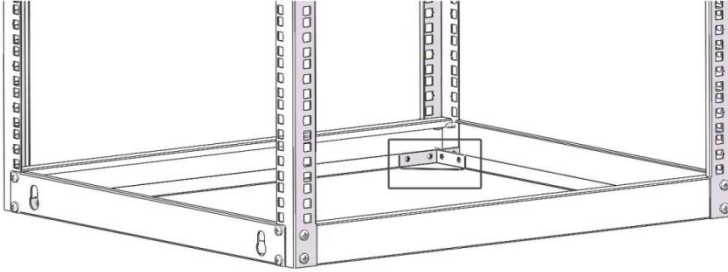

Figure 5
1. Insert an M5*10 Self-tapping screws(⑧) through the Grounding Point on the Grounding Wire(⑫) and into the Ground Hole located on the bottom of the Rack.(Figure 5).
2. Run the Grounding Wire(⑫) under the Rack's Frame.(Figure 5).
3. Connect the Grounding Wire(⑫) to an Earth Ground Connection.